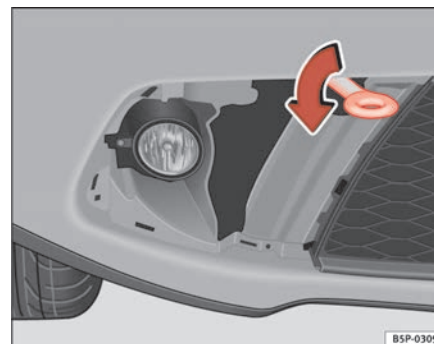

Fig. 206 Attachment for towing eye
- Screw the eye to its limit to the *left*, in the direction of the arrow ⇒ fig. 206.